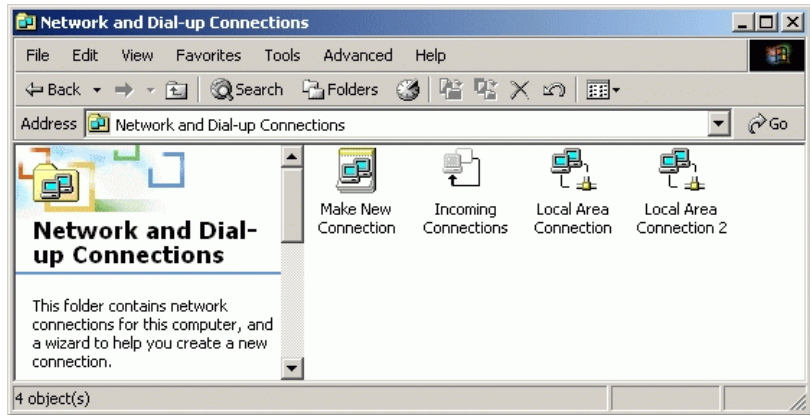

Figure D-17 Network and Dial-up Connections Window
2. Double-click the *Network and Dial-up Connections* icon. The *Network and Dial-up Connections* window displays (Figure D-17 on page D-14).